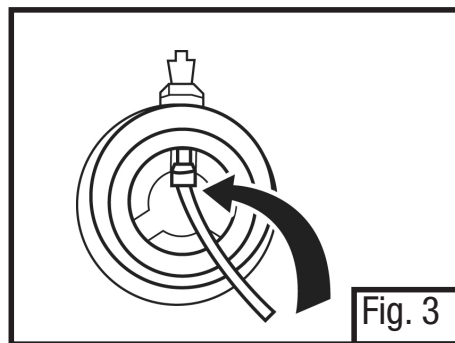

Fig. 3
4. Slide one end of cut sampling tube onto the inside fitting of the 601 Adapter (Fig. 3).